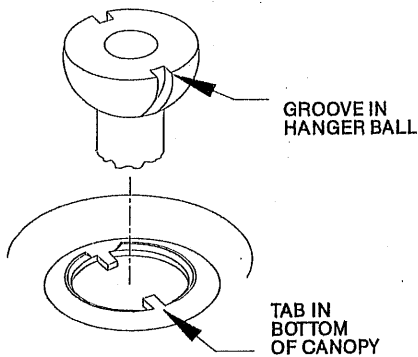

Figure 5C. Aligning Tab & Groove
B. Before hanging the fan from the ceiling plate align and engage the (2) tabs in the bottom of the canopy with the (2) grooves in the hanger ball. See Figure 5C.
C. Position (2) slots in the canopy directly under and in line with (2) mounting screws in the ceiling plate. Lift fan until ceiling plate mounting screws are seated in bottom slots of canopy. Rotate fan counter clockwise until both mounting screws drop into slot recesses. Tighten screws securely. Install third screw into mounting hole.
Note: For the ball hanging fan configuration make sure the (2) grooves in the ball are engaged with the (2) tabs in the canopy. Failure to do so could result in the fan falling. See figure 5C.